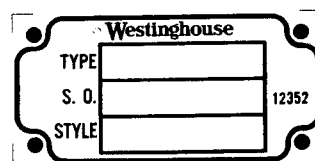

FIG. 3—NAME PLATE
2. Give the name plate reading. For illustration of name plate see Fig. 3.